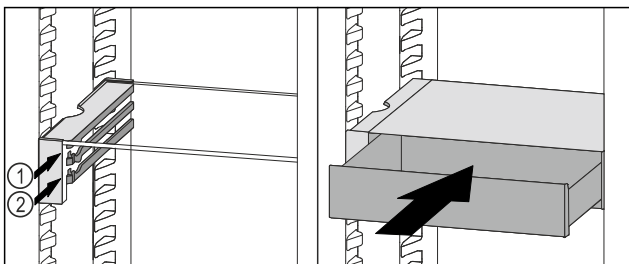

Fig. 108
- ▶ Place the VarioSafe drawer behind the stoppers on desired rib *Fig. 108 (1)* or *Fig. 108 (2)*.